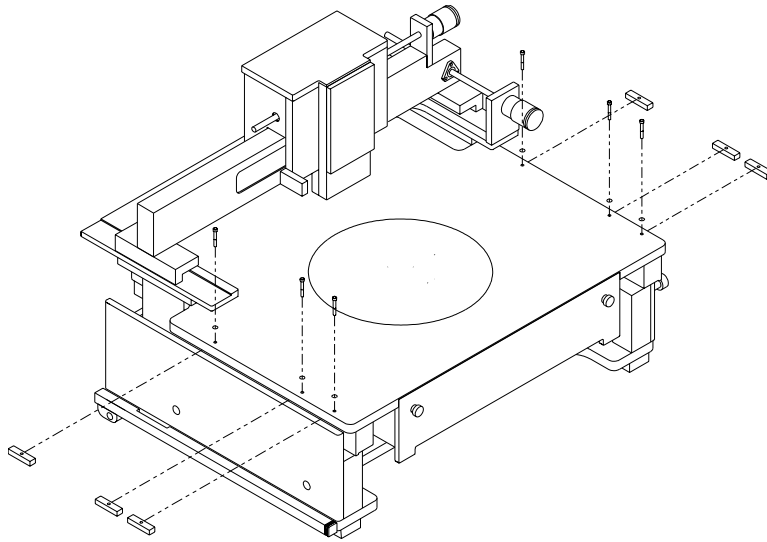

Fig. 15. Platen shipping restraints.
1. There are three short metal blocks screwed in place under the platen on the right and left sides of the station. You must carefully remove the blocks to prevent them from falling inside the station (fig. 15).